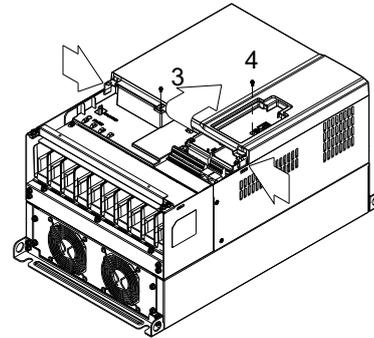

Figure 2
2. (Figure 2) Loosen screw 3, press the tab on the right and the left to remove the cover. Screw 3, 4 Torque: 6–8 kg-cm / [5.2–6.9 lb-in.] / [0.6–0.8 Nm]